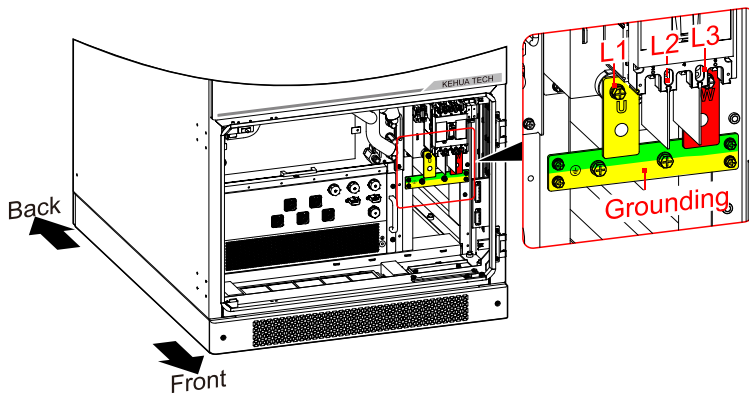

Figure4-18 AC copper bars diagram
Step 5 Connect the crimped AC cables to the corresponding copper bars (as shown in Figure4-18) in the order of PE, L2, L1 and L3.